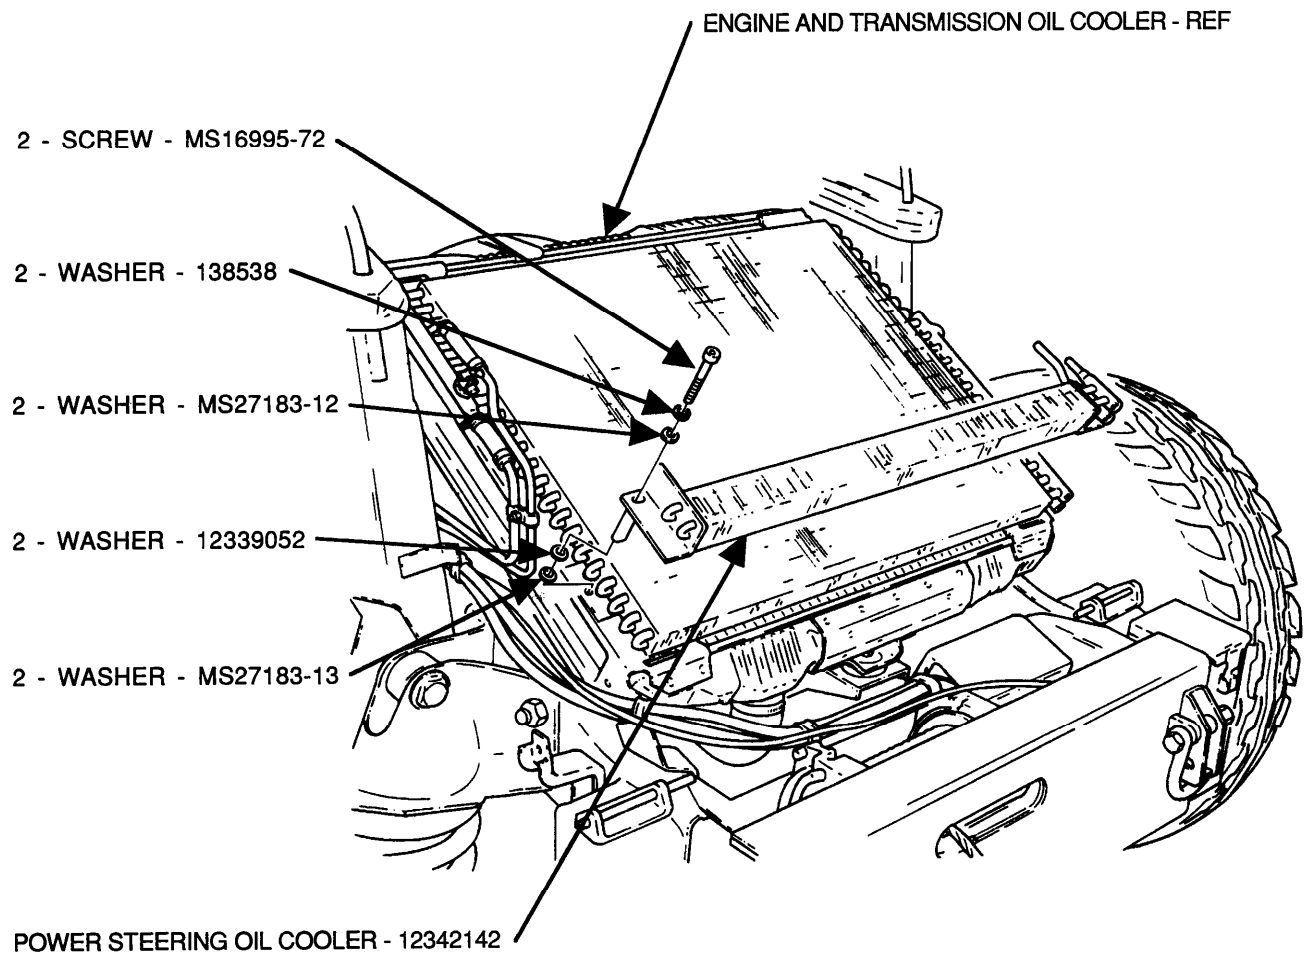

FIGURE 3
(1) Position two MS16995-72 screws, 138538 washers, and MS27183-12 washers to 12342142 power steering oil cooler as shown in figure 3.
(2) Position two 12339052 washers and MS27183-13 washers to oil cooler as shown in figure 3.
(3) Install power steering oil cooler to oil cooler and secure with two screws as shown in figure 3. Tighten screws to 12-14 lb-ft (14-18 N m).